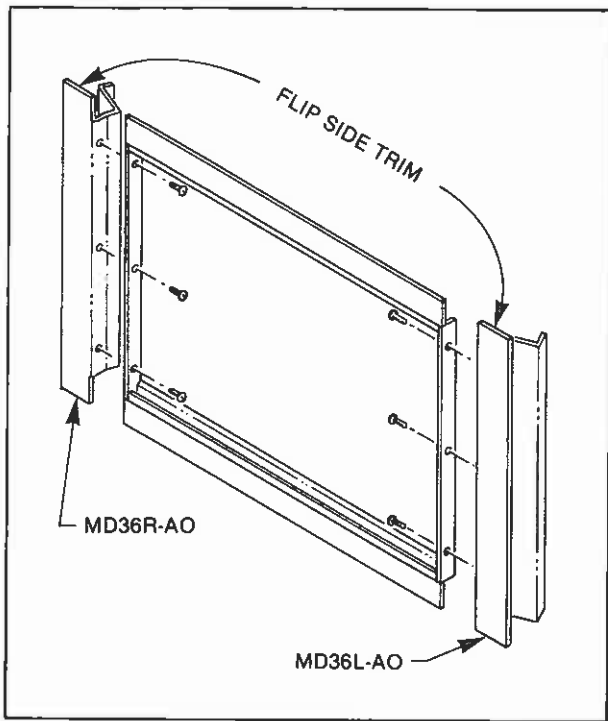

Fig. 5. Flip side trim for MD36L-AO application.
Remove three (3) washer head screws retaining side trim to front door frame and flip side trim over from top to bottom and reattach to opposite end of dock frame. (See Fig. 5).